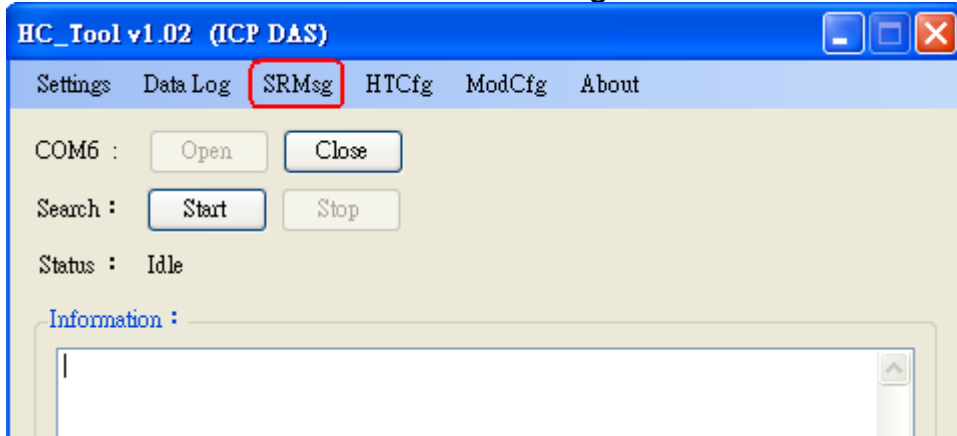

Figure 4-10: SRMsg Function
(1) Click “**SRMsg**” menu and it will open the HART command function window for HART communication like Figure 4-10.